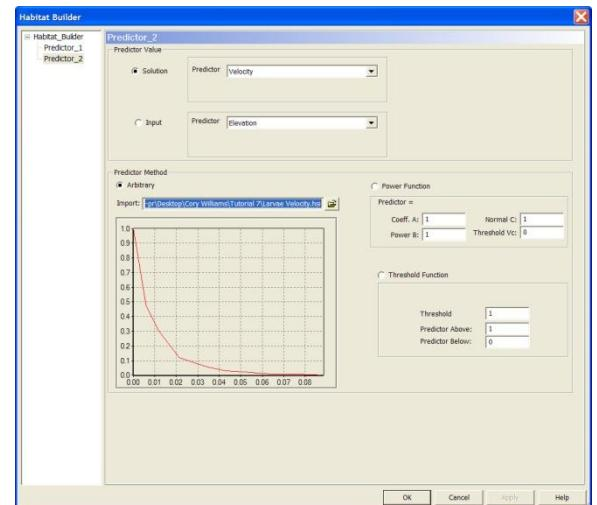

Figure 3.2.7f Velocity predictor for larval Colorado pikeminnow
3. Create a new Predictor for velocity. Right click the Habitat Builder brand of the data-tree and select Add Predictor in the resulting drop-down menu. You will now see the data-tree has Predictor_2 added. Left click Predictor_2 and repeat the steps in step 2 for the larvae velocity so that the Predictor_2 dialog resembles Figure 3.2.7f.